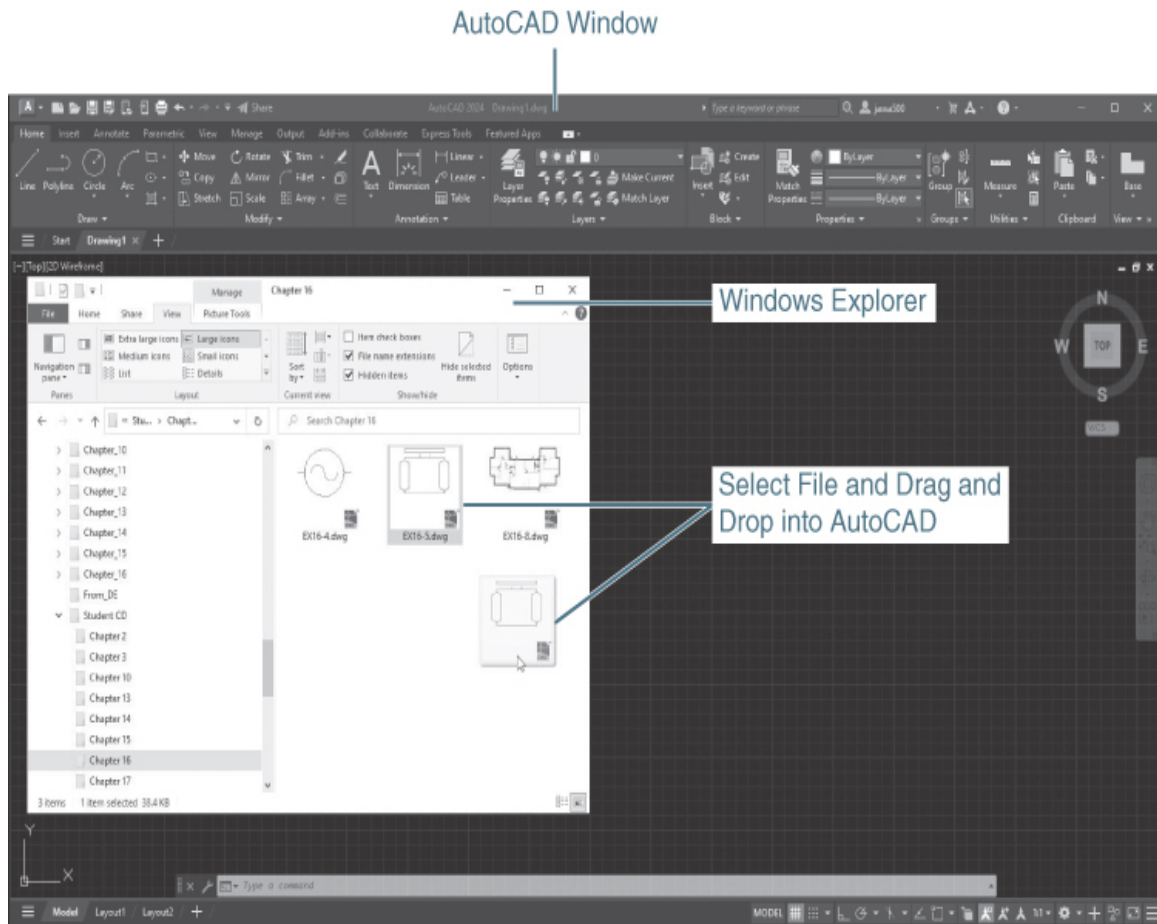

Figure 16-17
To use drag-and-drop techniques, you must be able to have both AutoCAD and File Explorer visible on your computer at the same time, as shown in Figure 16-17.
- 3 Set up your computer display so that the AutoCAD drawing window and File Explorer window are both visible, similar to the display shown in Figure 16-17.